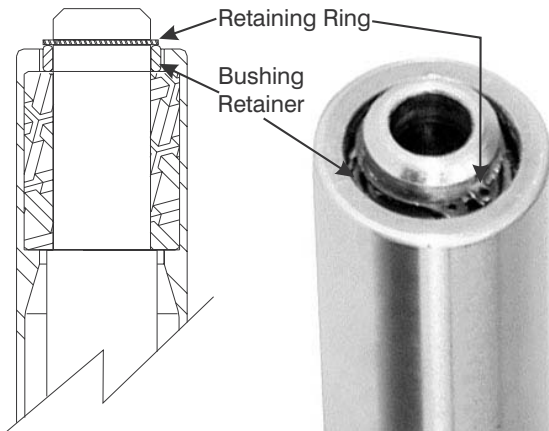

Figure 9-18. Install Bushing Retainer and Retaining Ring.
5. Slide the Bushing Retainer (5) on to the Valve Stem. Install Retaining Ring (4) to secure these components in place. Refer to Figure 9-18.